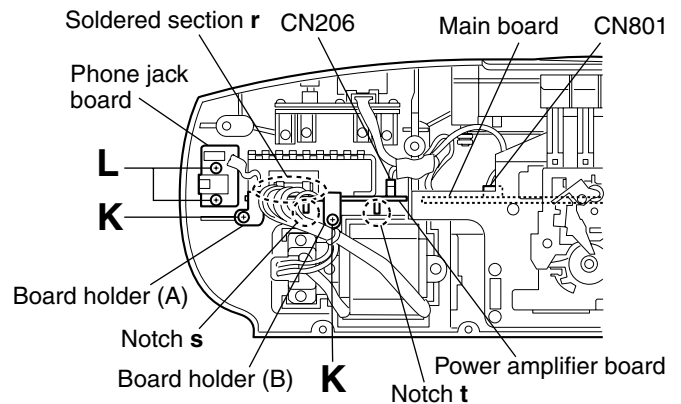
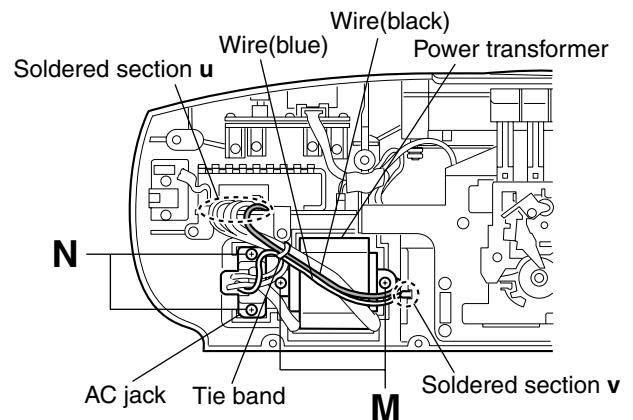

Fig.14
Fig.15
■ Removing the power amplifier board and phone jack board (See Fig. 14.)
4. Remove the two screws **K** and board holders (A)/(B) retaining the power amplifier board.
■ Removing the power transformer (See Fig. 15.)
3. Disconnect the wire from the connector CN206 on the power amplifier board. (See Fig.14.)
4. Disconnect the wire from the connector CN801 on the main board. (See Fig.14.)